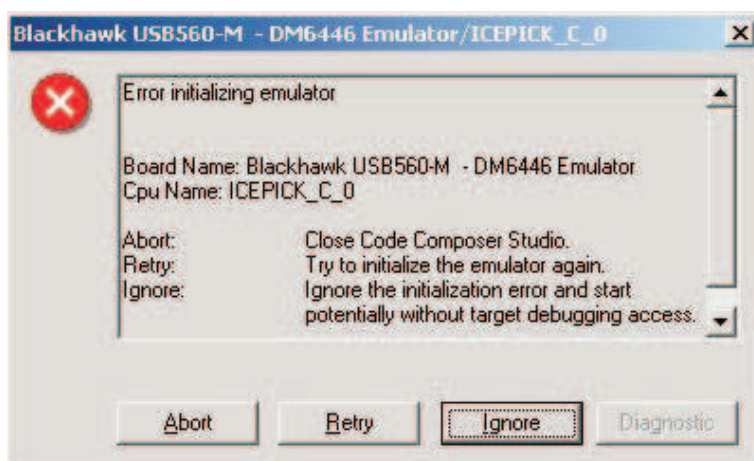
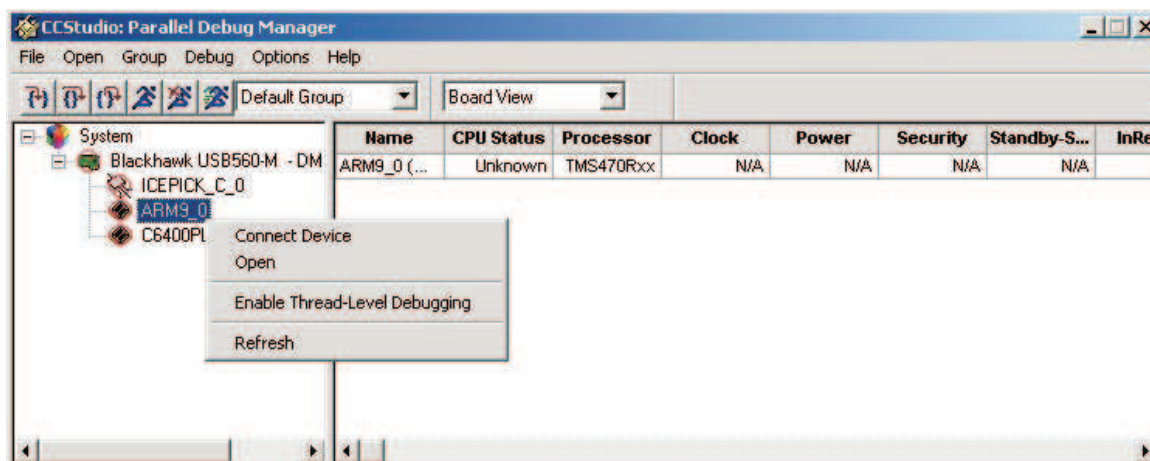

Figure 5. Code Composer Studio Launch Error Message
Figure 6. Parallel Debug Manager Session
- Step 9. Select Ignore in this dialog box if the error dialog box appears as shown in Figure 5. This will launch the CCStudio:Parallel Debug Manager as shown in Figure 6.
- Step 10. Right-click on the ARM9_0 to get the pop-up menu as shown in Figure 6. Select the *Open* menu item. This launches Code Composer Studio IDE for ARM.